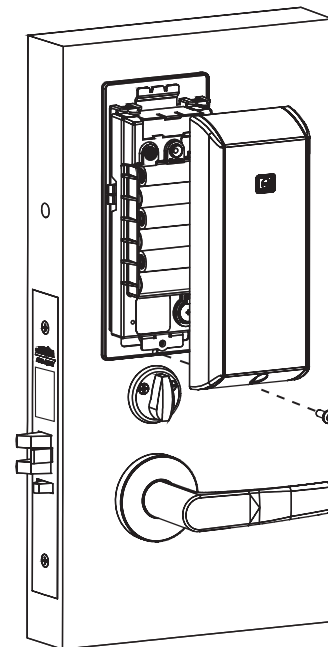

Fig. 19
3. Fully secure cover by tightening the security screw at bottom of cover (Fig.19), utilizing the security allen wrench provided.